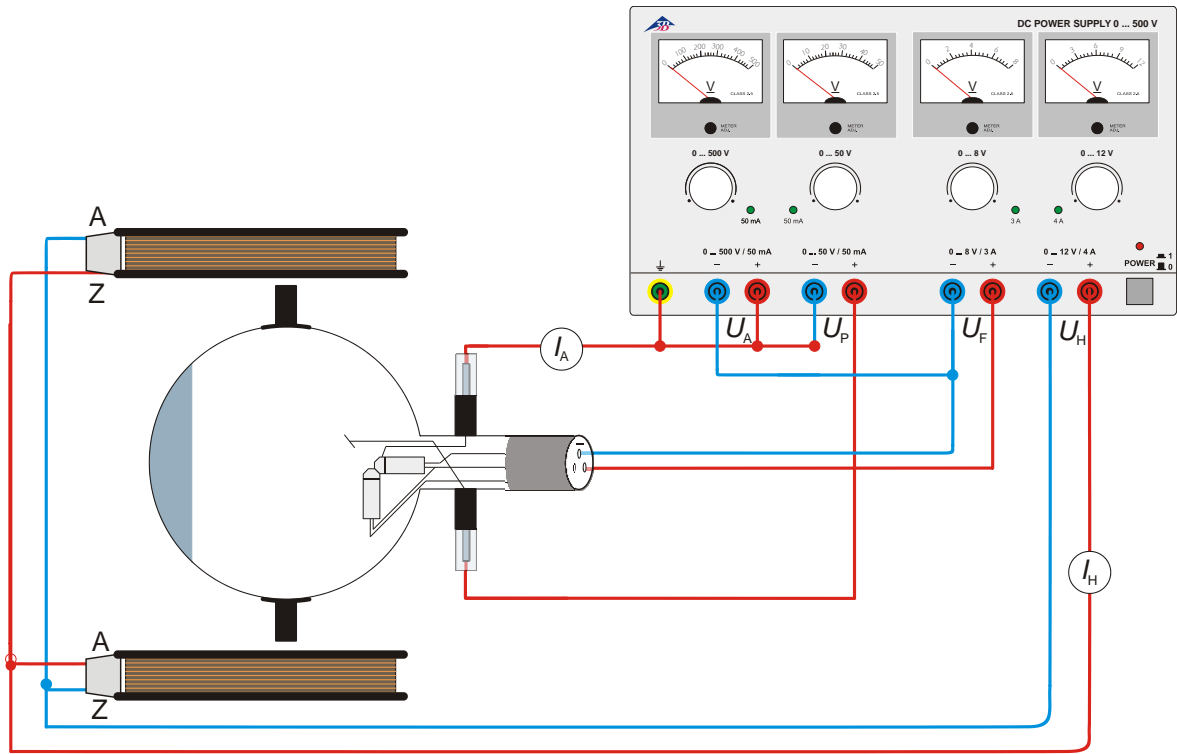

Fig. 5 Determining e/m using the perpendicular electron gun
- Connect up the tube as in Fig. 5.